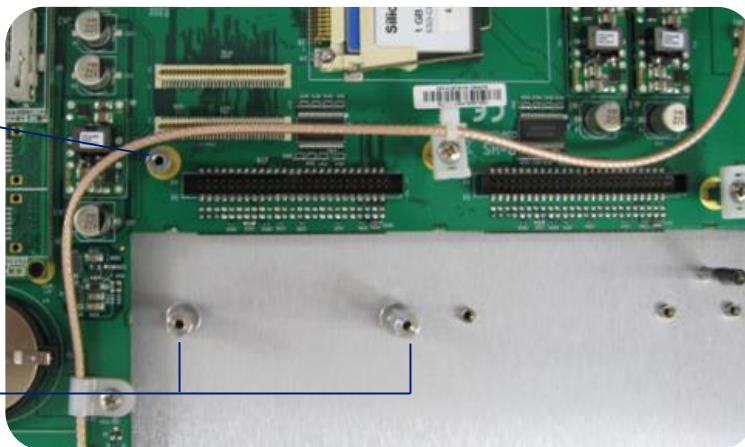

Figure 10: Gigabit Ethernet option card installation
- (c) Screw the supplied 18-mm standoffs into place above the washers (see Figure 10), applying a torque of 0.9 Nm/8.9 in-lbs.
- (d) On the SecureSync mainboard, remove the screw located under the J11 connector and replace with the supplied 12-mm standoff (see Figure 10).